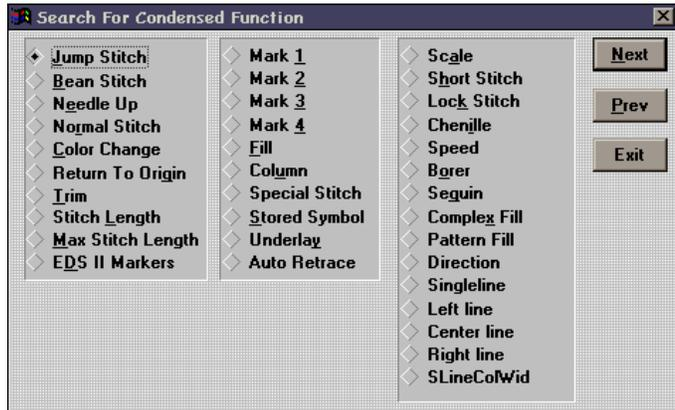

Figure 1-9
- If it is a Condensed design, the dialog box in Figure 1-9 will display